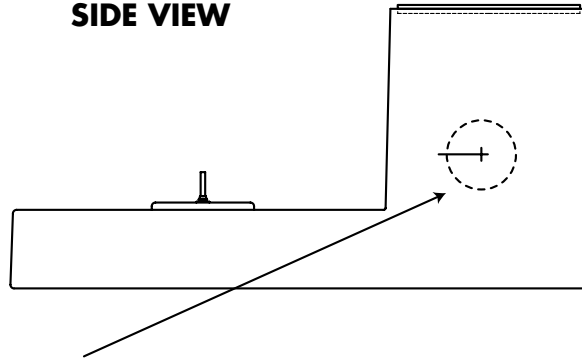

Figure 1
13. If additional fixture(s) are being added to your installation, a 2" rubber pipe seal must be inserted in the tank. Refer to Fig. 1 for location.
**NOTE: The bottom of the additional fixture, a 3" diameter hole, must be 5" minimum above the base of the tank, as shown in Fig. 1.**